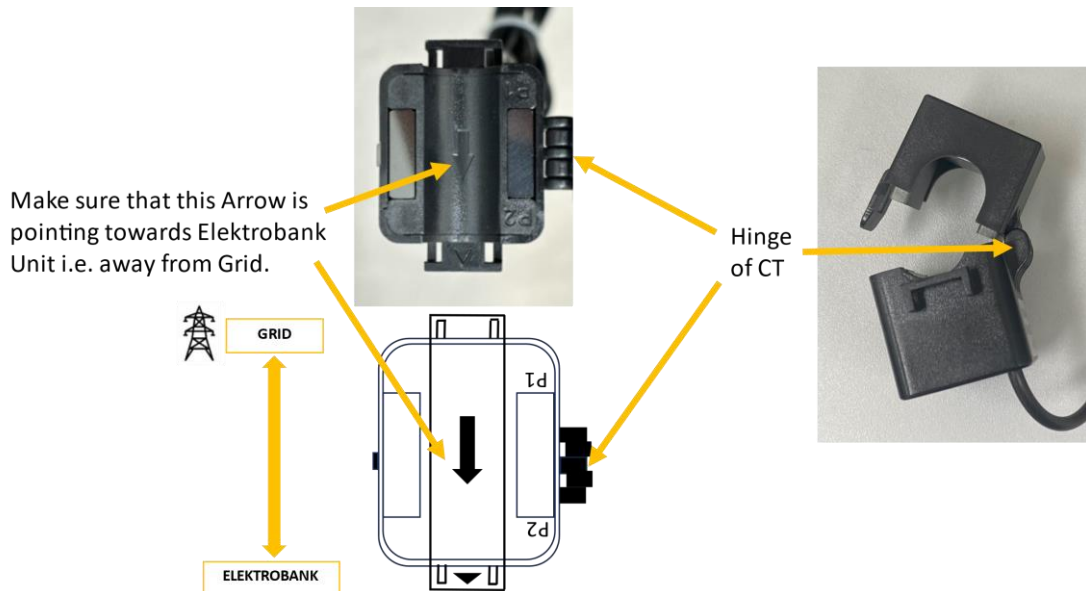

Figure 28 - CT (top view & side view) showing arrow and direction of ElektroBank 14 and Grid
5. The CT(s) must be clamped onto main house consumption live wire(s), with the arrow pointing towards the ElektroBank 14 (away from the grid input). Refer to Figure 28.